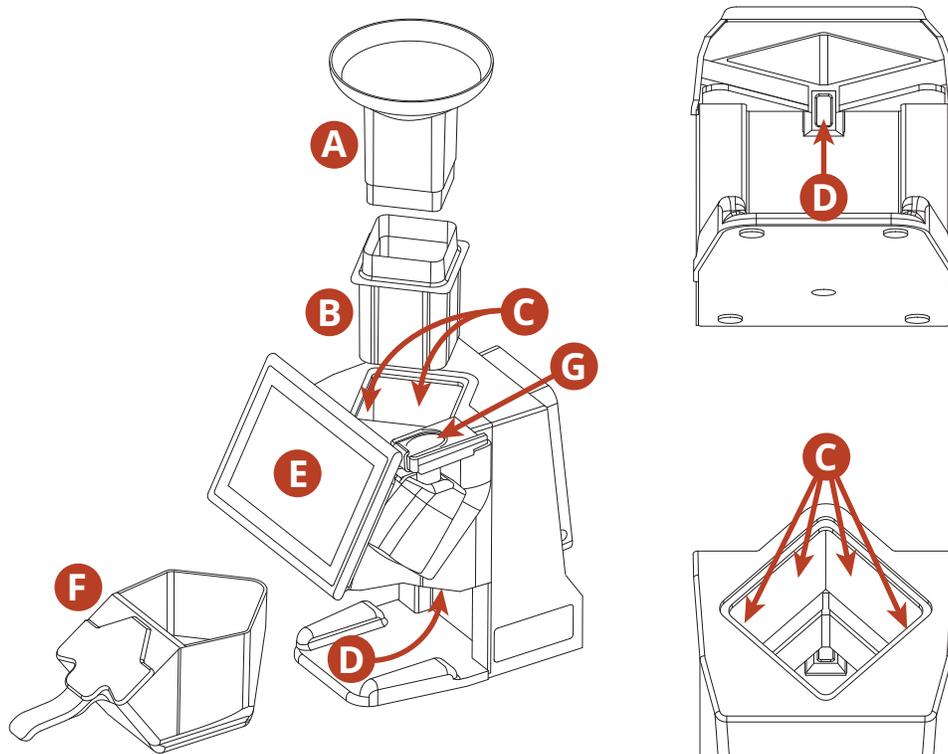

Figure 30: Elements to Clean
2. Remove the counting tray and set it aside (**F** in Figure 30).
- b. Remove the funnel (**A** in Figure 30) and wipe it thoroughly inside and out.
- b. Remove the channel from the KL1Plus body (**B** in Figure 30) and wipe it thoroughly inside and out.
The counting sensors are located behind the four glass windows inside the body of the unit, under the funnel and channel (**C** in Figure 30). Most counting errors are caused by an accumulation of pill dust on the edges and corners of these windows.
- a.** Dampen a cloth with mild soapy water and clean the sensor window (**D** in Figure 30).
- b.** Wipe the touchscreen (**E** in Figure 30) side to side or up and down. Don't use a circular motion.
- b.** Wipe the tray (**F** in Figure 30) thoroughly inside and out.
- Press a strip of transparent tape across the top of the fingerprint scanner (**G** in Figure 30) then peel it off.